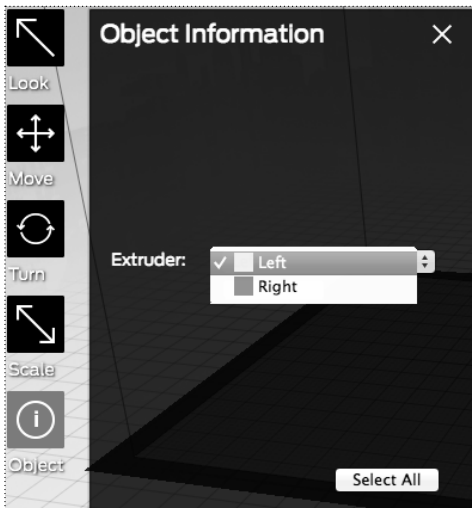

Fig. 9.4
12. In the Object Information submenu, in the Extruder field, select an extruder to print Lotus_color1.stl. [Fig. 9.4]